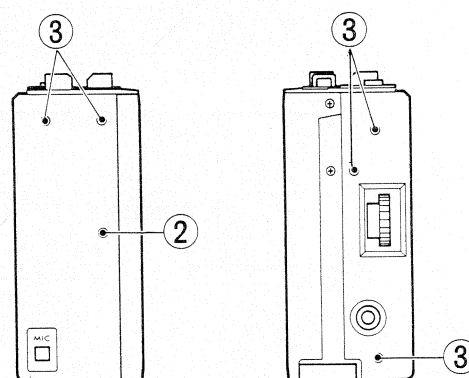

Fig. 23
B. Removal of rear cover ass'y (Figs 23 and 24)
2. Remove screw (2) SPSH1720N and 5 screws (3) SPSH1735N from the right and left sides.
3. Remove 2 screws (4) SPSH1735N at the battery cover side and remove the rear cover ass'y from the electret condenser microphone side while pressing in the lever ass'y.